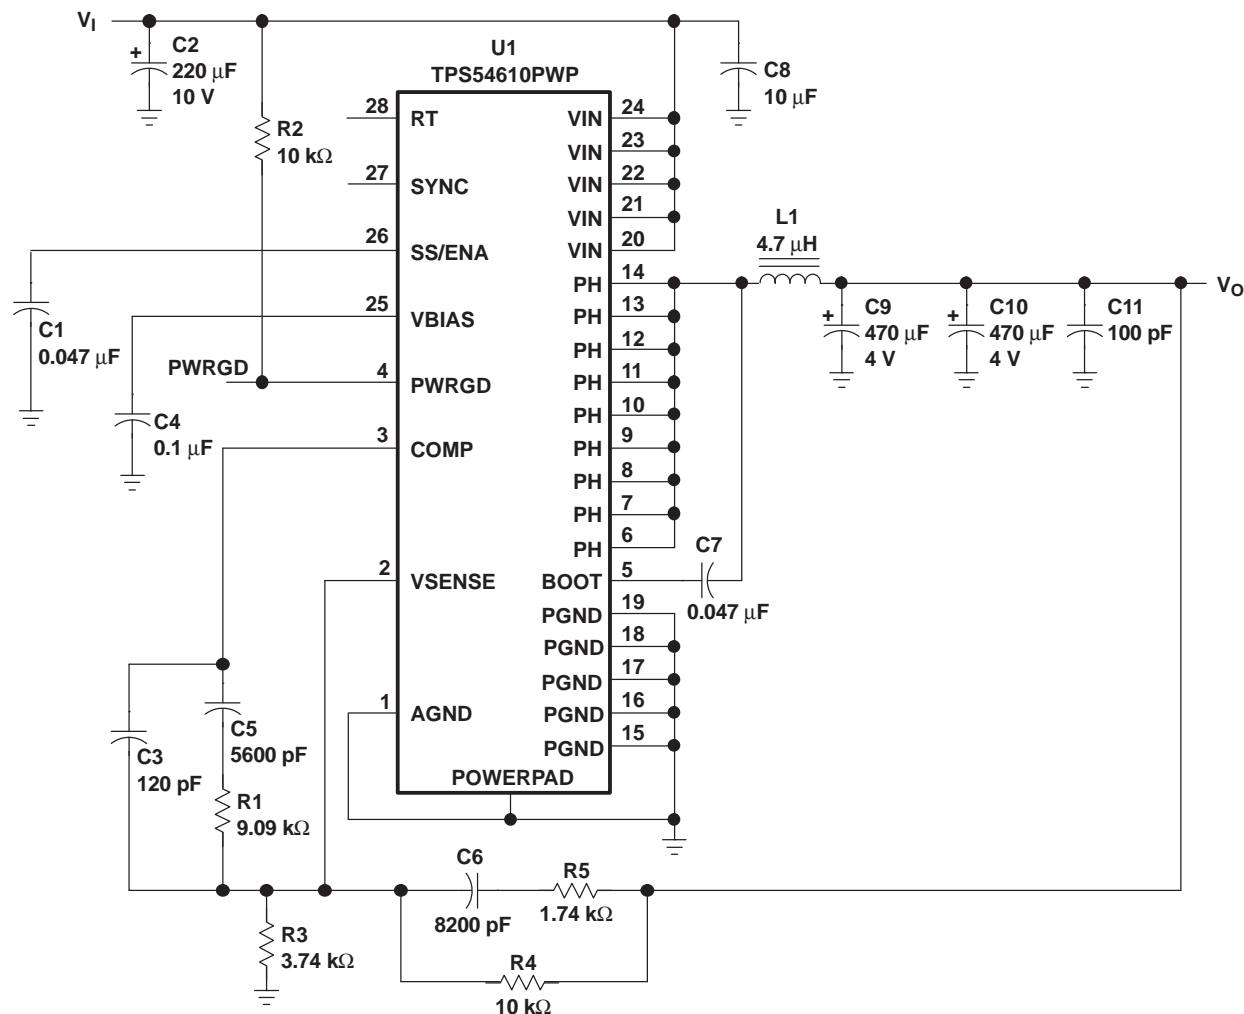

Figure 10. Application Circuit
(1) Specified by design
(2) Static resistive loads only
(3) Specified by the circuit used in Figure 10
Figure 10 shows the schematic diagram for a typical TPS54610 application. The TPS54610 (U1) can provide greater than 6 A of output current at a nominal output voltage of 3.3 V. For proper thermal performance, the exposed thermal PowerPAD under the integrated circuit package must be soldered to the printed-circuit board.